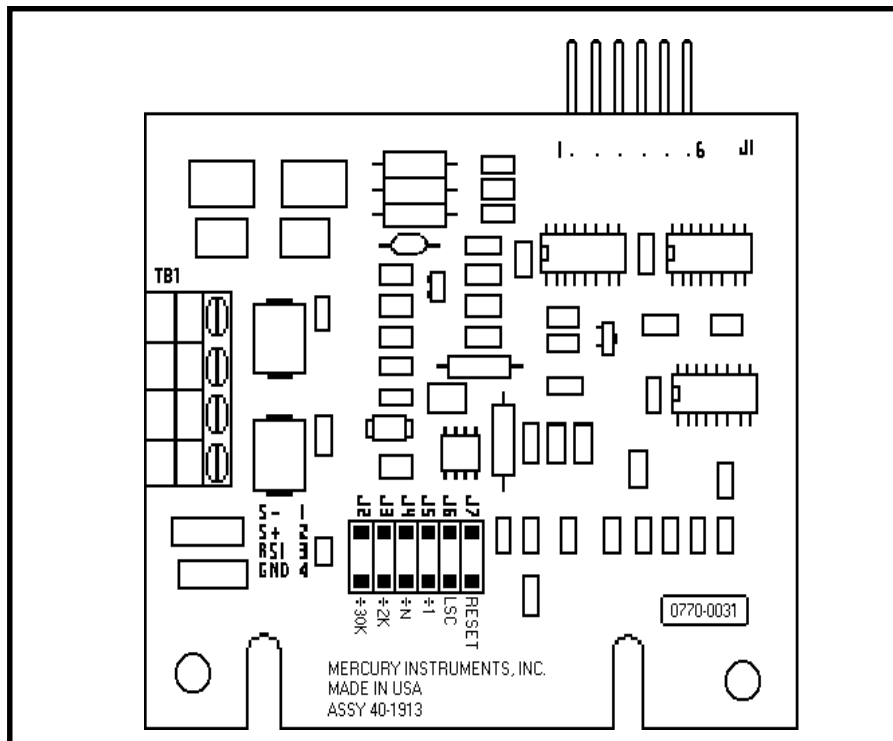

Figure 6
The Mini-AT can be configured to accept low frequency meter input pulses directly from a meter or Model 210/212 pulse transmitters (or any other low frequency pulse source) if a RSI board is installed. Alternatively, the Mini-AT can be configured to accept high frequency pulses from turbine meters input, but requires the High Frequency Input Board (HFI Board) instead of the RSI board (see Figure 6).
The standard power supply for the Mini-AT is an alkaline receptacle pack (40-1865) for six replaceable D-cell batteries (batteries not included). The battery pack is mounted inside of the instrument's case door (see figure 6). The expected service life of the battery pack is greater than three (3) years under normal use, with considerable reserve to allow for battery replacement after the low battery alarm occurs. If the battery voltage drops below a preset value, a BATTERYLOW alarm occurs. When this alarm occurs, the batteries (or battery pack) should be replaced.
- Loosen the three (3) slotted screws (item A) and remove the aluminum battery cover (item B), see figure 6.